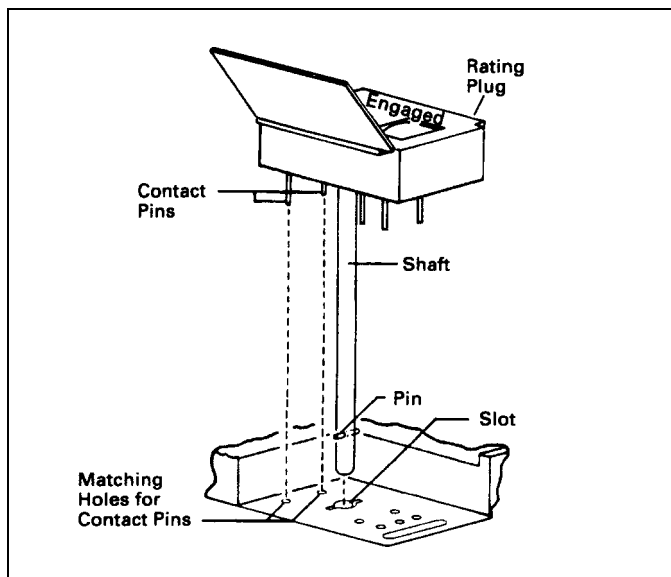

Fig. 3.5. Installation of Rating Plug
- Position the rating plug over the trip unit as shown in Fig. 3.5. The pin on the rating plug shaft must line up with the matching slot in the trip unit.
- Remove trip unit. Using two small flatblade screwdrivers, lift up on the spring clips located at each end of the trip unit (see Fig. 3.5).